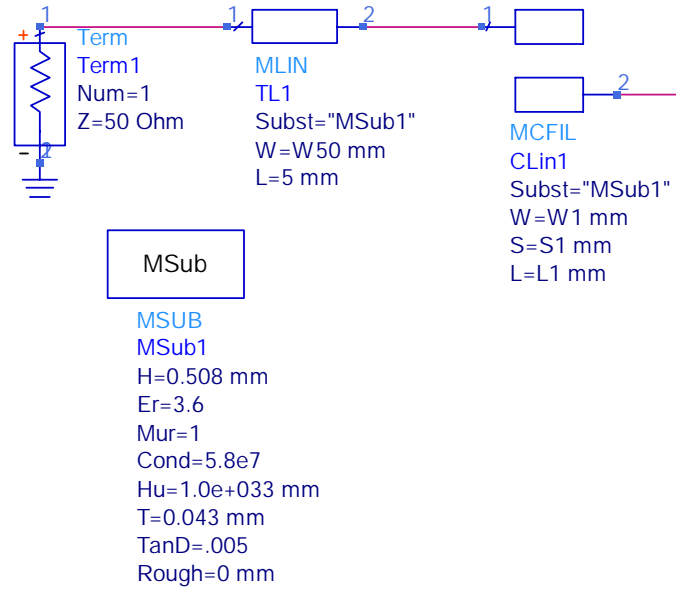

Figure 3. Partial schematic for a band-pass filter using microstrip coupled-line elements.
- 1) Use the *Linecalc* program in ADS to determine the correct lengths and widths for microstrip coupled-line sections corresponding to each part of the filter schematic. Also determine the width of a  $50\ \Omega$  microstrip line. Set the frequency to  $f_c$  and use the substrate parameters given above (these are also shown in Figure 3). Note that we are specifying the conductivity to be that of copper ( $5.8e7\ \text{S/m}$ ).
- 2) Create a schematic for the filter that is based on microstrip elements, herein referred to as lab4\_microstrip\_1 (see Figure 3).